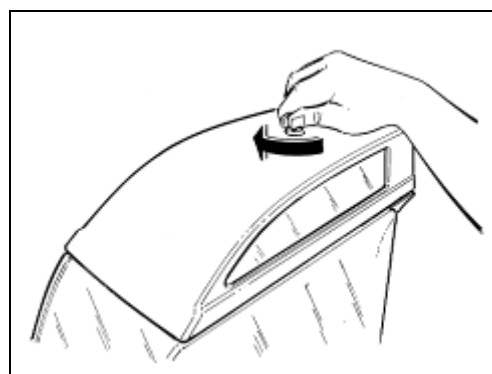

Fig. 17
- Remove the luminous cover after unblocking it by turning its special key clockwise (see fig.17).